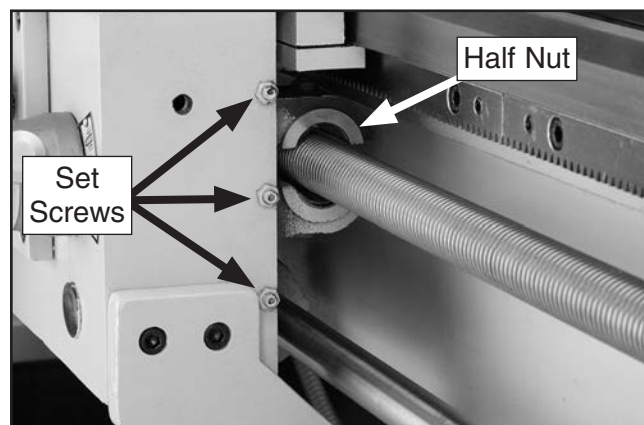

Figure 128. Half-nut gib set screws.
3. Loosen hex nuts on the set screws shown in **Figure 128**.